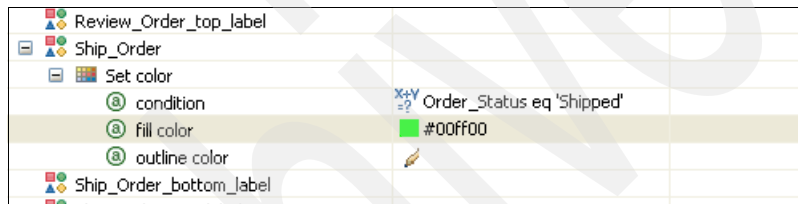

Figure 8-129 Adding the action for Ship_Order shape set
- d. In a similar way, find the Ship_Order shape set and add an action with a condition (`Order_Status eq 'Shipped'`) and fill color (green) (Figure 8-129).